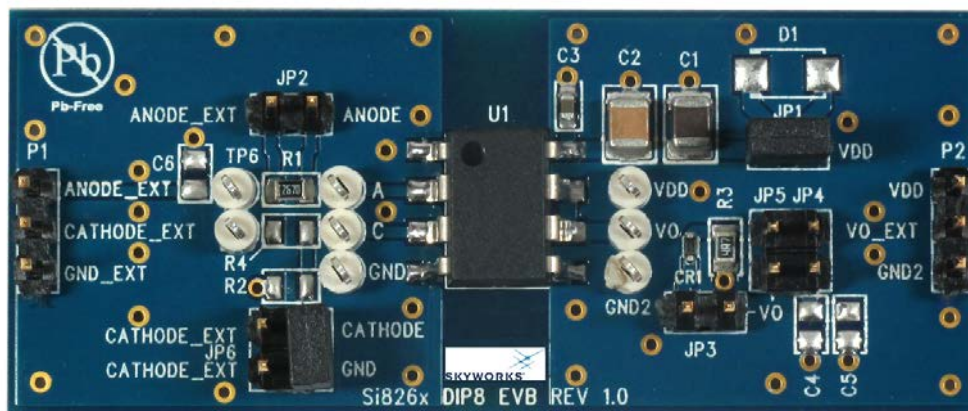

Figure 1. Si826x DIP8 Evaluation Board Overview
- Si826x based evaluation board as shown in Figures 1 through 3.
1. Ensure that JP1 and JP6 are installed as shown in Figure 1, 2, or 3.